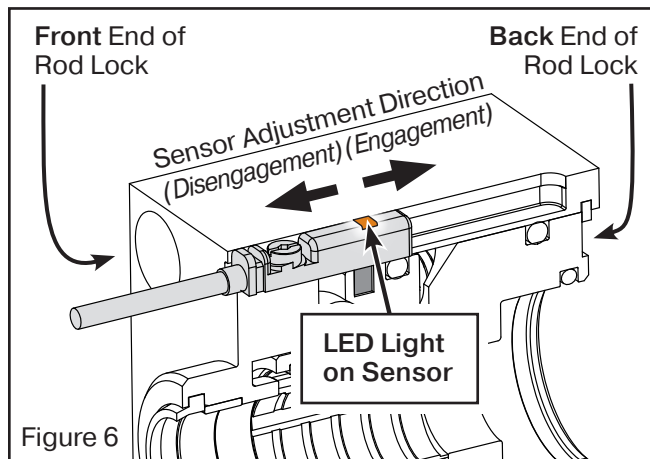

Figure 6
2. Install sensor as shown in Figure 6. Start with sensor positioned closest to the back of the rod lock, past the sensing target. Slide the sensor towards the front end of the rod lock until LED is lit. Once the LED is lit, move sensor a small amount further into sensing target.
2. Install sensor as shown in Figure 6. Start with sensor positioned closest to the front of the rod lock, before the sensing target is reached. Slide the sensor towards the back end of the rod lock until LED is lit. Once the LED is lit, move sensor a small amount further into sensing target.